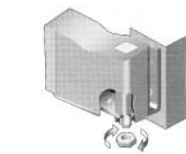

Fig 5.
- b) Remove the locknut from the bottom hinge bracket (see fig. 5).